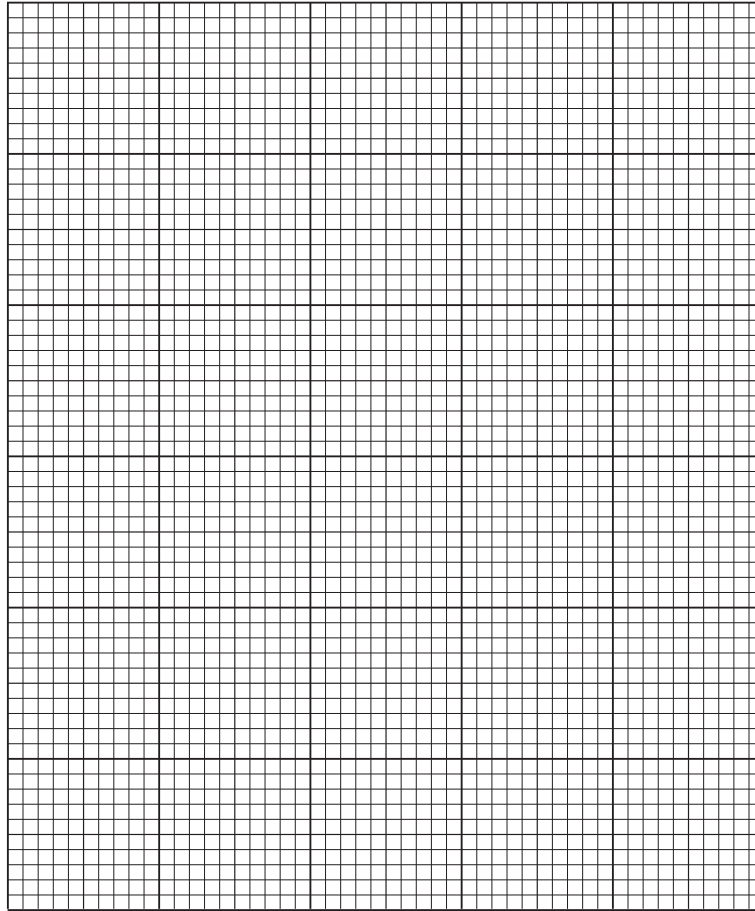

Fig. 1.2
- (i) Plot a bar chart of the data in Table 1.4 on the grid in Fig. 1.2.